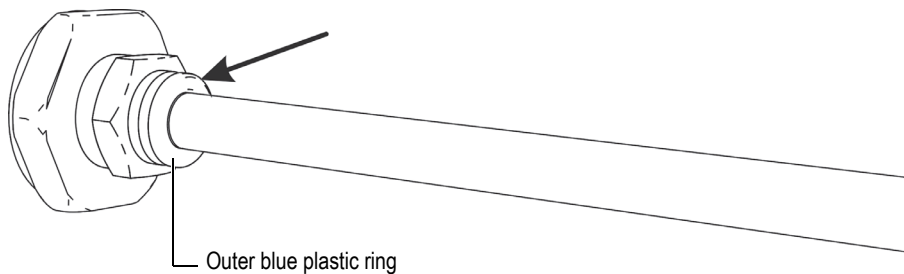

Figure 2-10 Disconnecting the water outlet tube
2. Push on the outer blue plastic ring of the connector to release the tube (see Figure 2-10 on page 35).